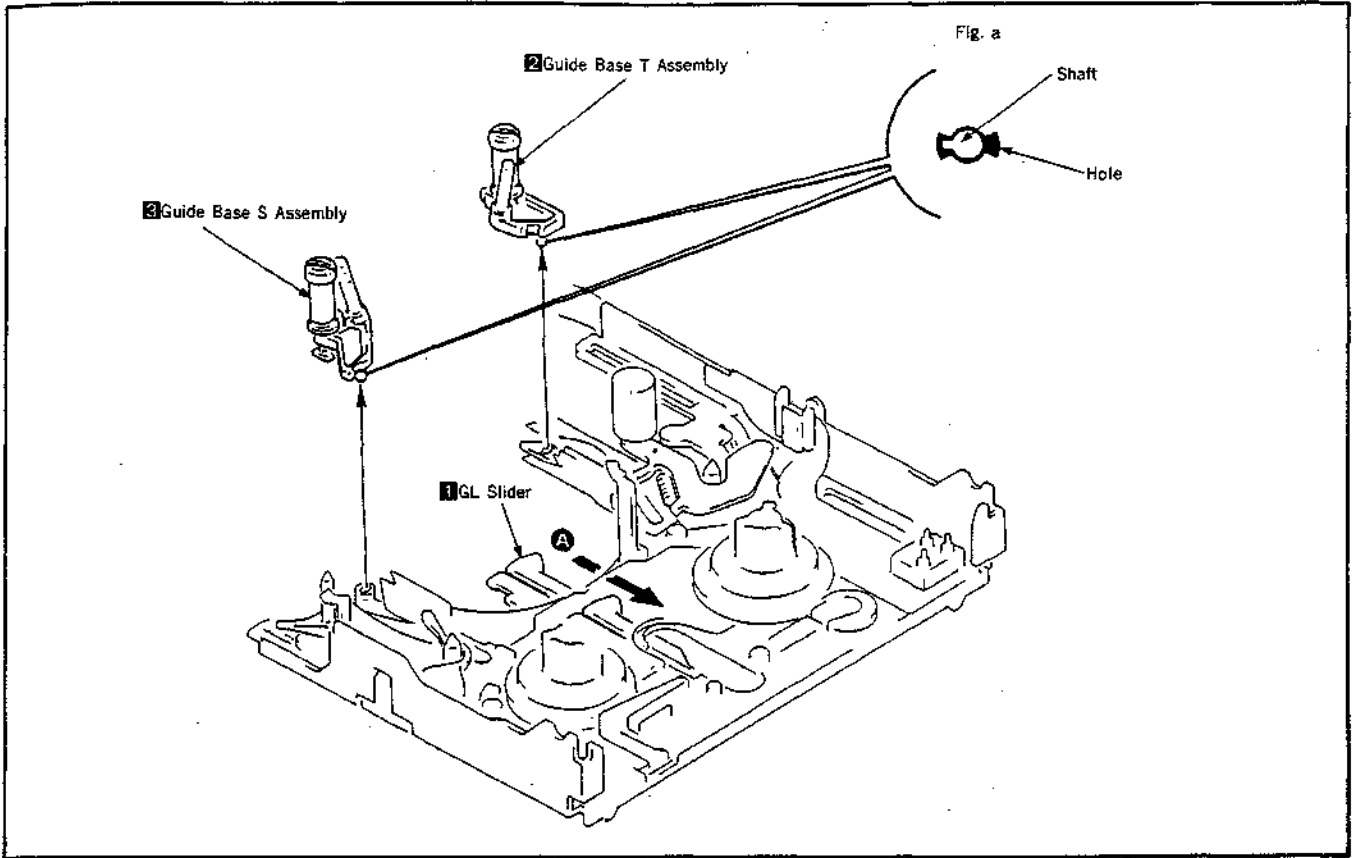

Fig. 15
3-8. GUIDE BASE T ASSEMBLY AND GUIDE BASE S ASSEMBLY (Fig. 15, 16)
- 5) Push in the GL slider **1** toward the arrow **A**, and remove the guide base T assembly **2** and guide base S assembly **3** from the guide rail respectively as shown in Fig. 15.
- 1) Turning the guide base T assembly **2** and guide base S assembly **3** respectively, align the shaft with a hole to mount as shown in Fig. a (Fig. 15).